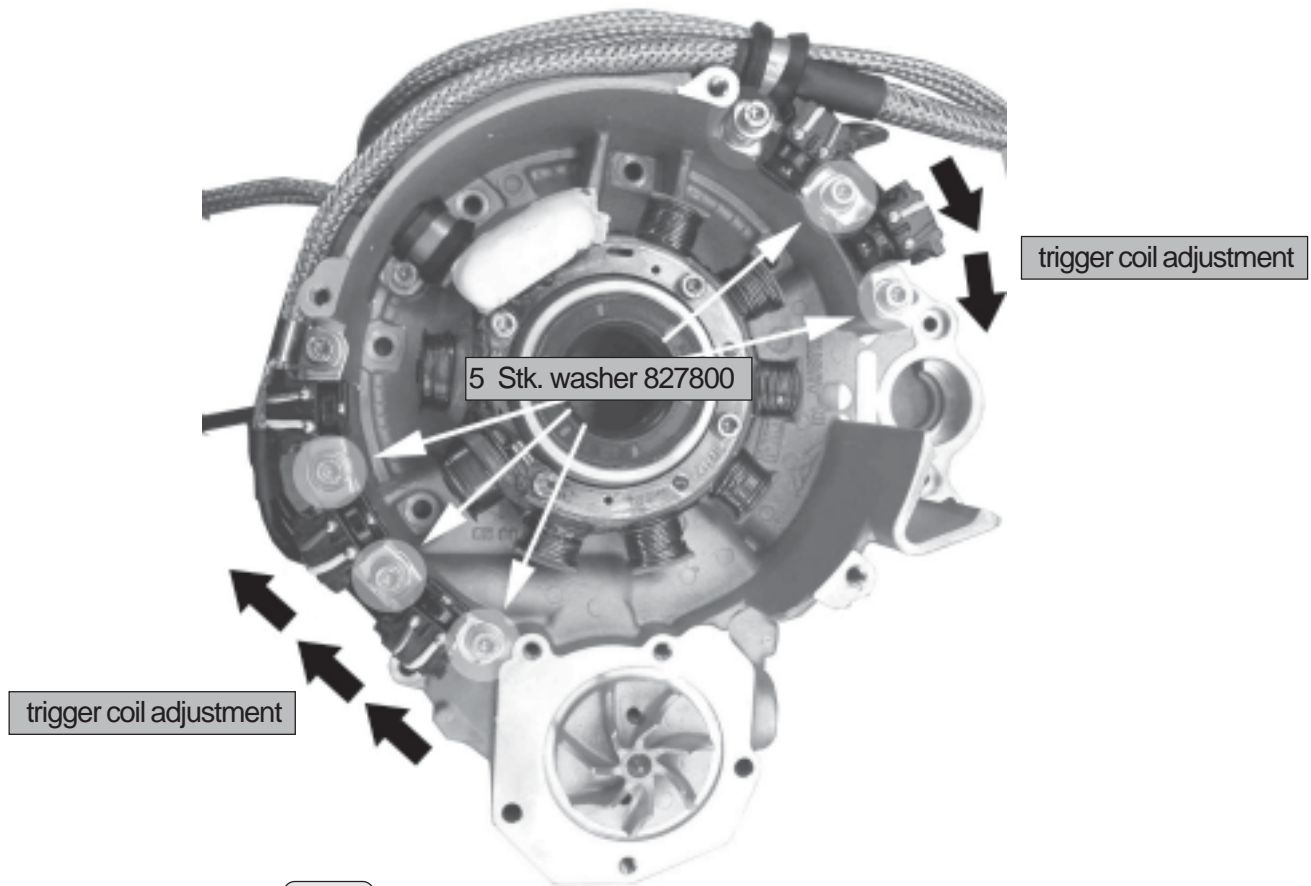

fig. 21
■ CAUTION: Because of no centering of the new trigger coil and clearance between screw and elongated bore, all trigger coils have to be pushed clockwise on block during adjustment of the trigger coil gap (see fig. 21).